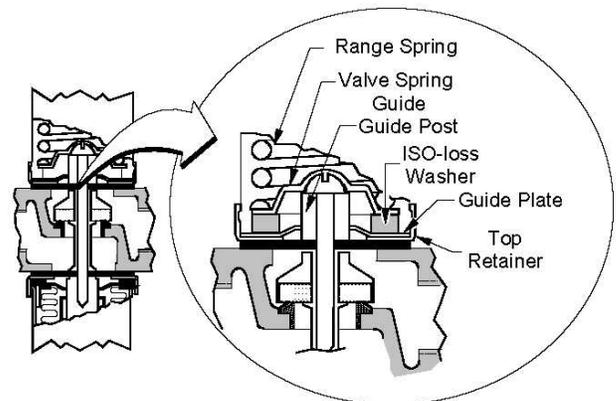

Figure 4: ISO-Loss Washer
- b. Remove the range adjusting screw, spring, and valve spring guide (Figure 4).